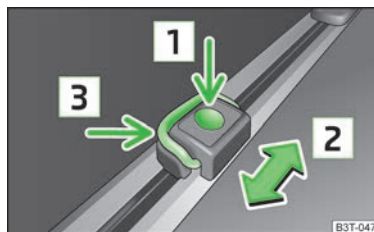

Fig. 77
- Press the button **1** » Fig. 77 and push the lashing eye in the desired position in the direction of the arrow **2**.
- Fold up the clamp **3** » Fig. 77 and, for example, attach the fixing net.